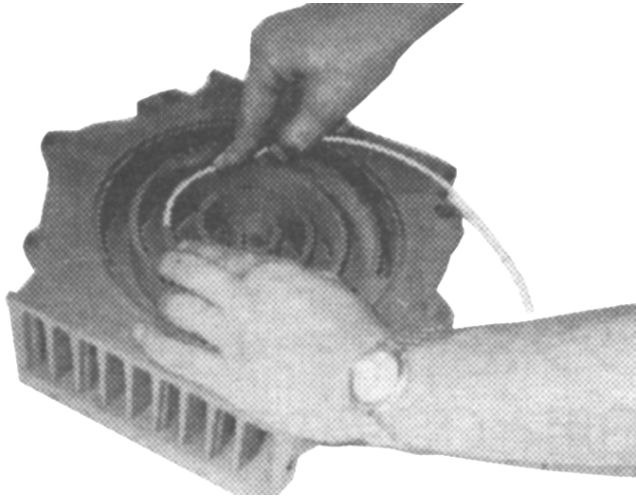

Figure 4. Removing the Tip Seals From the Groove.
- e. Remove the low pressure and high pressure tip seals from the fixed scroll set and the orbit scroll set. Using a ballpoint pen at the start will make it much easier (see Figure 4).
- k. Insert the seal so that the new low pressure tip seal will contact closely with the high pressure tip seal inside the scroll seal groove (see Figure 4).